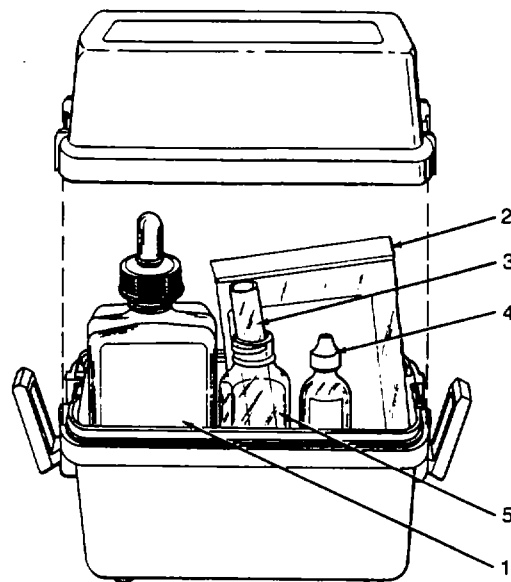

Figure 2-7. Acidity Test Kit.
c. Equipment Used: Found in *Acidity Test Kit*, para 2.6.3, fig. 2-7
Standard sodium hydroxide solution, (1), fig. 2-7
Test tube, (3), fig. 2-7
Bromcresol green-methyl red, (2), fig. 2-7
Mixing bottle, (5), fig. 2-7
- (1) Collect the water sample by filling the plastic measuring tube(3, fig. 2-7) to the brim. Pour the sample into the mixing bottle(5).
- (2) Add the contents of one bromcresol green-methyl red indicator powder pillow(2) to the water sample in the mixing bottle(5). Swirl to mix.
- (3) If the water turns either gray-blue, blue, or green the free acidity is zero. Then the test is complete. If the water turns pink go to step (4).
- (4) If the water turns pink during step (3), add standard sodium hydroxide solution(l) drop by drop until the water just begins to turn gray-blue. Count the drops as they are added. Record the number of drops. Constantly swirl the mixing bottle(5) while adding the sodium hydroxide(l).
- c. Equipment Used: Found in *Acidity Test Kit*, para 2.6.3, fig. 2-7
Standard sodium hydroxide solution, (1), fig. 2-7	Bromcresol green-methyl red, (2), fig. 2-7
Test tube, (3), fig. 2-7	Mixing bottle, (5), fig. 2-7
- (1) Collect water sample by filling the mixing bottle (5, fig. 2-7) up to the 23 ml mark with the water to be tested.